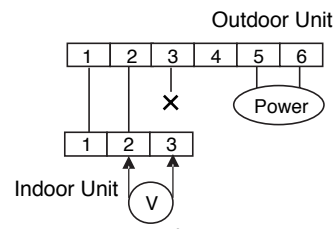

Fig. 2
- Disconnect the cable from the terminal 3 on the indoor unit terminal strip. (Fig. 2)